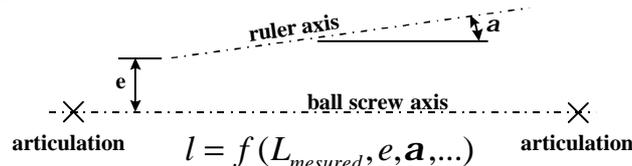

figure 3: Ruler axis alignment.
- The ruler axis is actually not parallel to the ball screw axes and suffers a slight offset (**figure 3**).